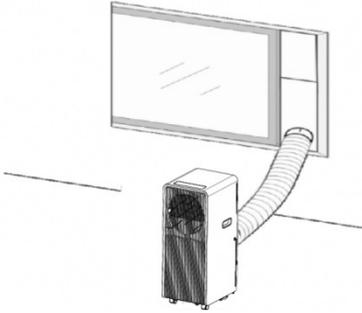

Fig. 2
- 2) As shown in Fig.2 and Fig.2a, install the exhaust hose, and adjust the window position well.